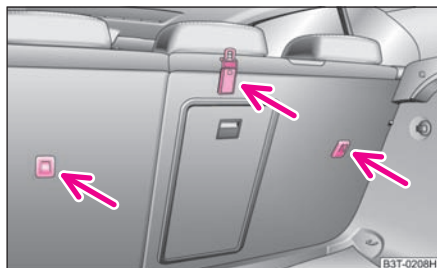

Fig. 174 Rear seat: Top Tether
In certain countries national legal provisions also require the equipment of the rear seat with fixing eyes for child seat using the "Top Tether" system ⇒ fig. 174.
- Attach the child seats with the "Top Tether" system only to the points provided for this purpose ⇒ fig. 174.